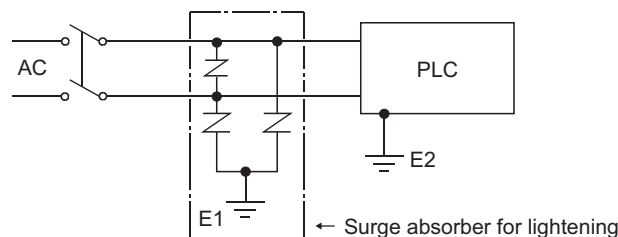

Figure 10.22 Connecting a lightning surge absorber
- As a countermeasure to power surge due to lightning, connect a surge absorber for lightning as shown in Figure 10.22.